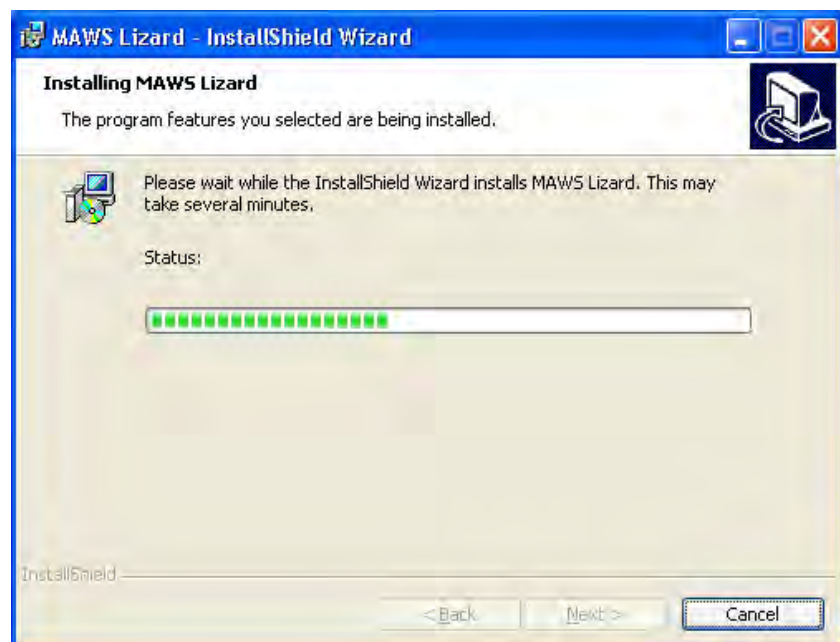

Figure 6 Installing MAWS Lizard Window
7. The **Installing MAWS Lizard** window, presented in Figure 6 on page 29, appears on your screen, indicating that the installation is in progress. The installation may take several minutes.